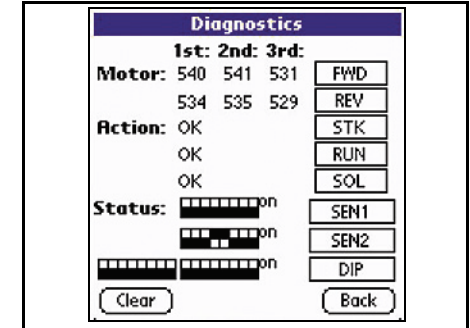

Figure 10 Diagnostics Screen
9. The Diagnostics Screen shown in Figure 10 on page 15 tests the following functions: